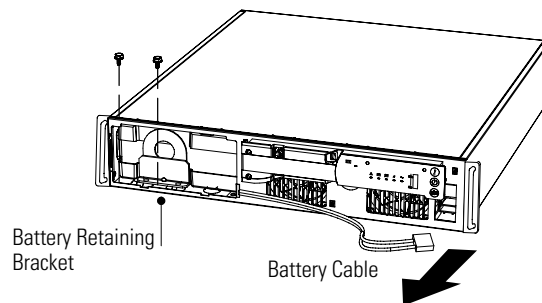

Figure 27. Accessing the UPS Internal Battery
2. Unscrew and set aside the battery retaining bracket (see Figure 27).